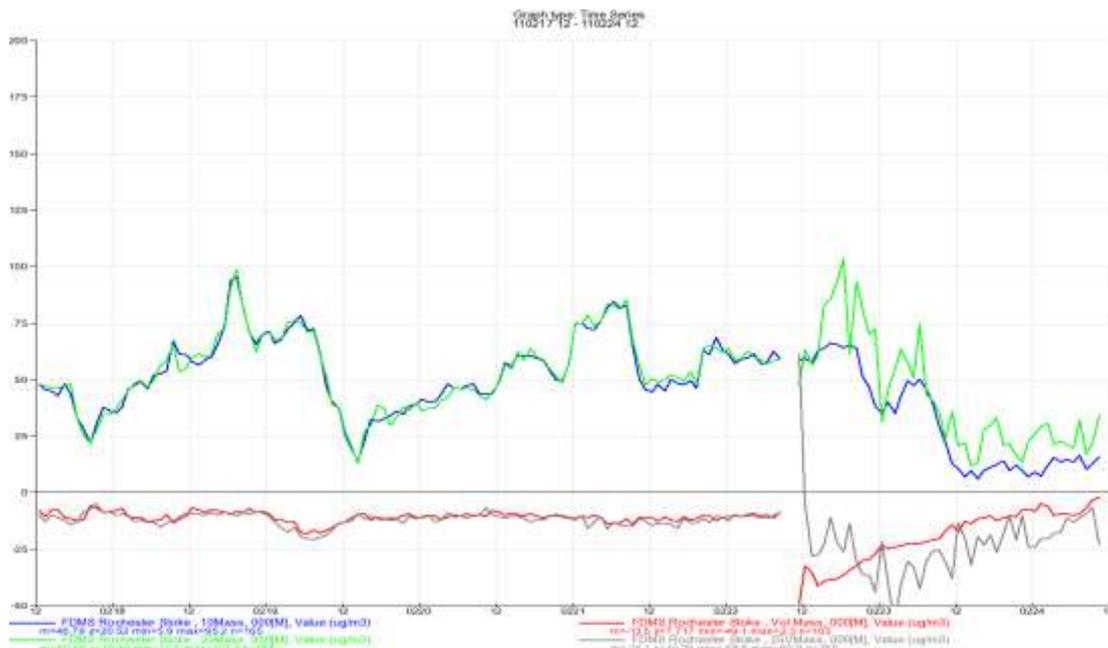
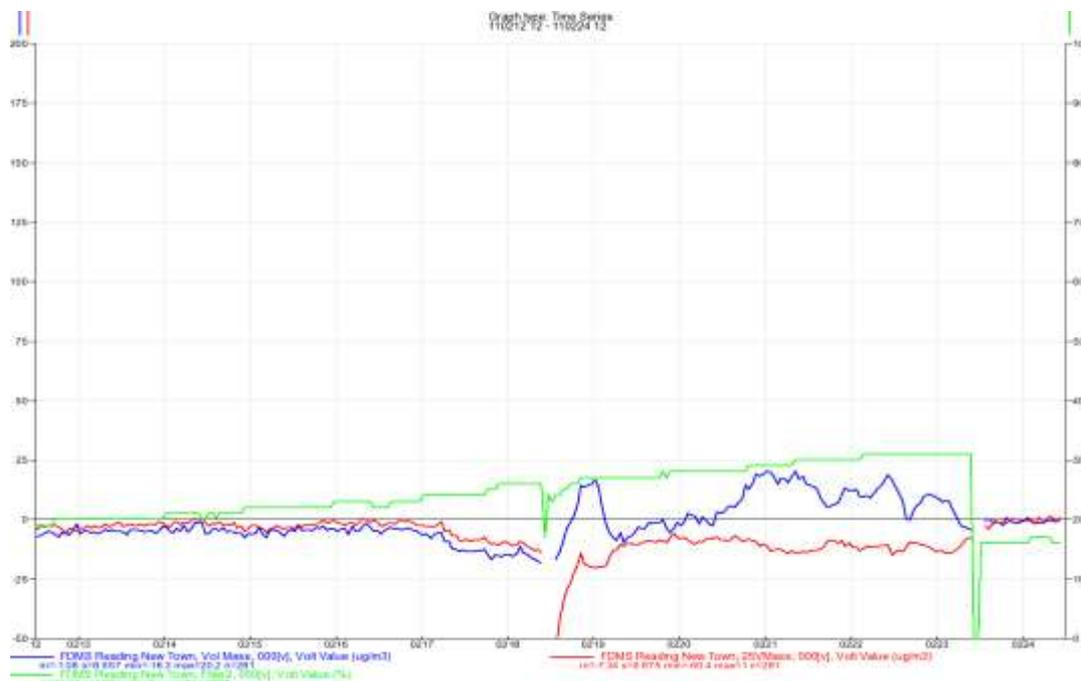

Figure 24-3 Examples of erratic data after poor filter change
Figure 24-4 Further Examples of erratic data after poor filter change
- Figure 24-3 and Figure 24-4 - examples of erratic data after poor filter change